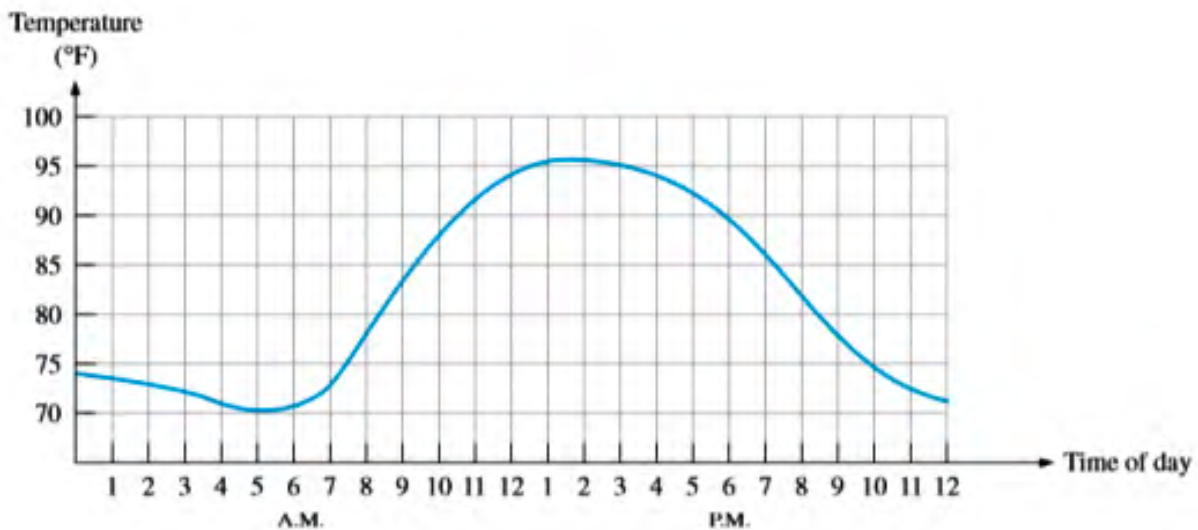

Figure 7.2: A Continuous-time Graph showing Temperature Readings
In the previous week, the graph in Figure 7.2 below was presented as an example of a continuous-time graph. It showcases temperature readings taken over a period of time. Using this graph as an example, we will walk through the basic steps of converting an analogue signal to a digital signal.
Remember that the word Discrete in the world of Robotics and electronics simply means Discontinuous or Definite. So, a Discrete-Time Signal is simply the representation of physical quantity over time where the value of the physical quantity is only measured or recorded at definite time intervals. This is the same process as sampling, which ADC goes through when converting an analogue signal to a digital one. So, considering the analogue temperature signal in Figure 7.2, to discretise the time axis, we will only take (sample) temperature readings at
So, for example, for the continuous-time graph represented in Figure 7.2, the graph will be x_a . If the sampling interval is determined or set as one (1) hour, then we will be capture the $x_a(t)$ values happening at $x_a(n*1hr)$ which is $x_a(1*1hr)$, $x_a(2*1hr)$, $x_a(3*1hr)$, etc. This is similar to saying capturing the analogue signal value occurring each hour.